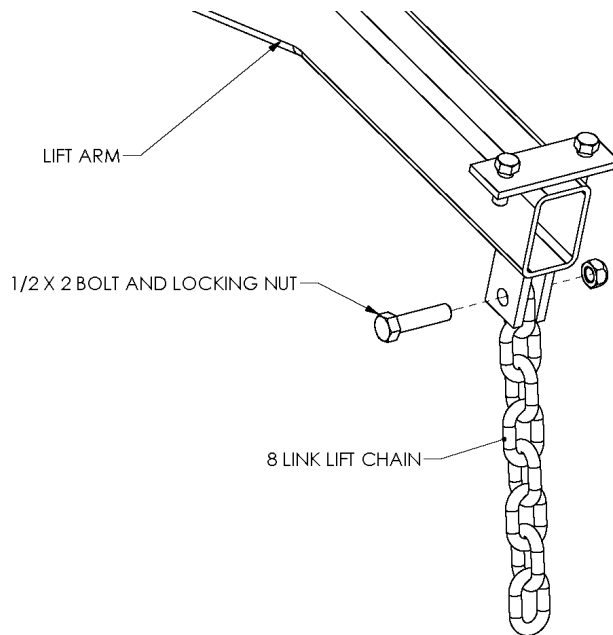

Figure 14
4. Bolt an 8-link lift chain between the chain tabs at the rear end of each lift arm. Refer to Figure 14. This chain will go down and connect to the last bar of a 4 or 8-bar harrow section or to the connector link for 16-bar sections.